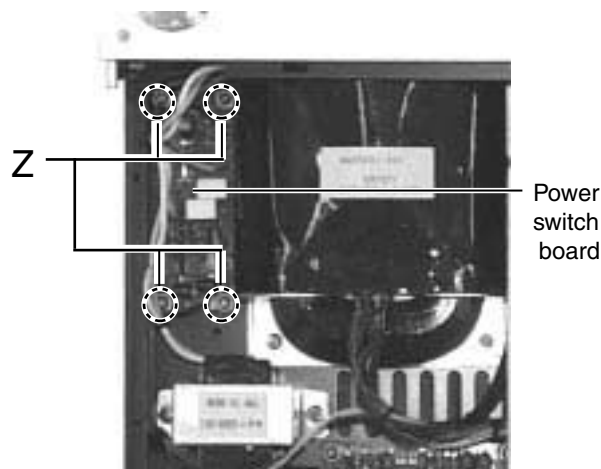

Fig.18
■ Removing the power switch board assembly (See Fig. 18)